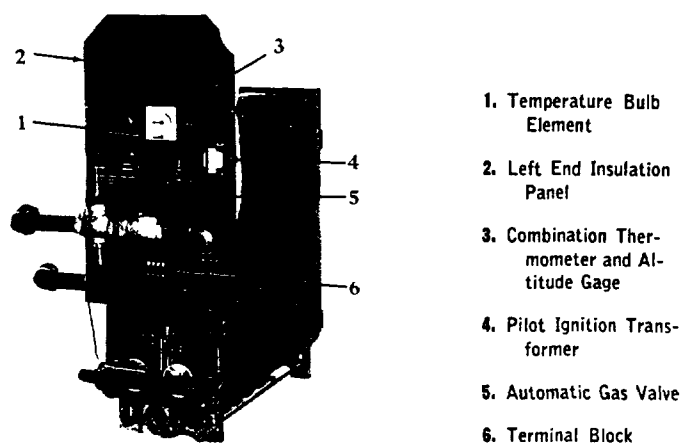

FIG. 5—Installing Gage and Temperature Bulb
5. Install combination thermometer and altitude gage in upper tapping on face of left end of section assemblage (See Fig. 5).